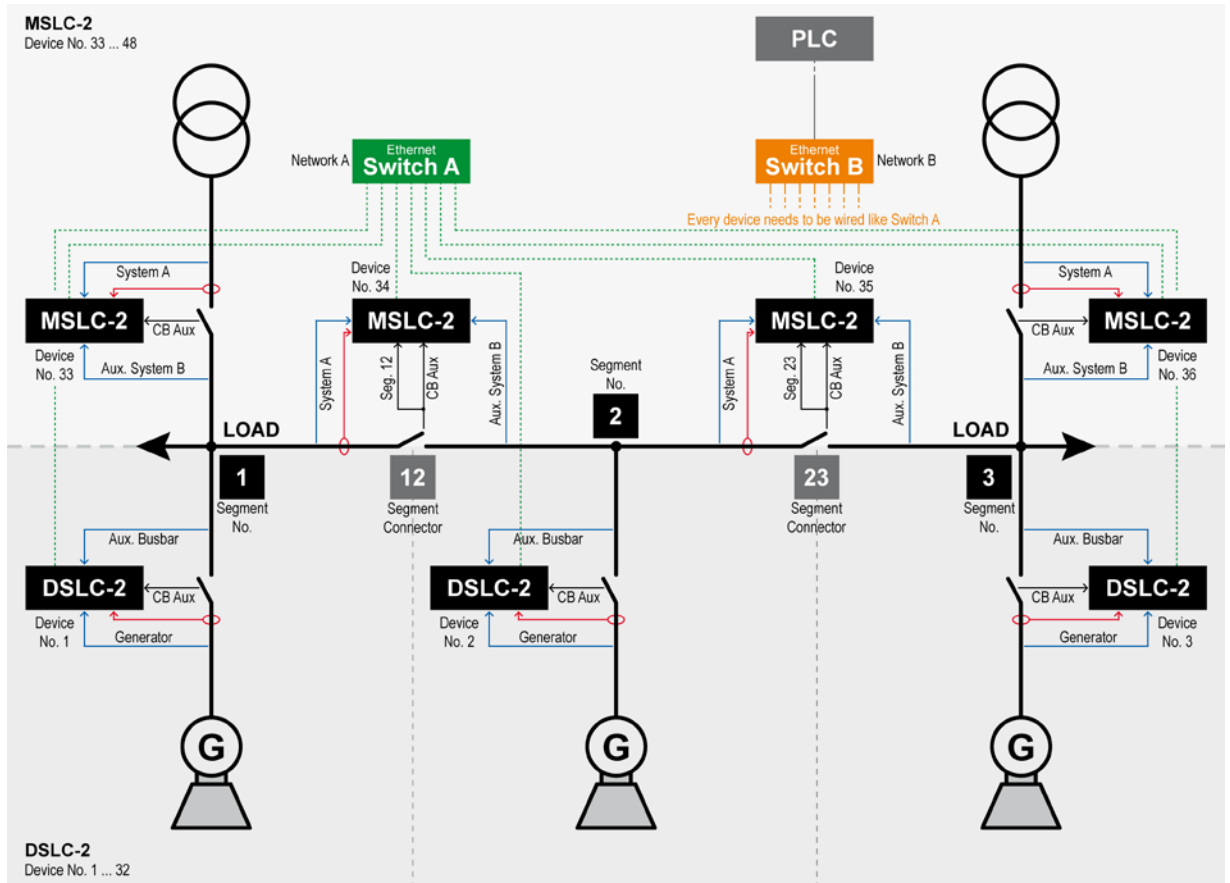

Figure 3-45: Example of an online diagram with all required information to setup the units
7. You can optionally draw the current measurement and the amount of phases in your online diagram (refer to Figure 3-45).